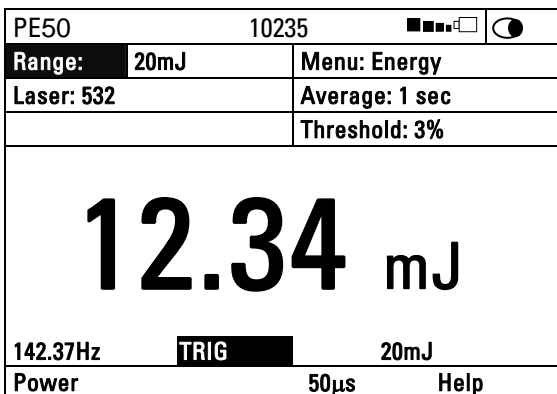

Figure 6.1
1. Ordinarily, when the instrument is switched on, it is in the main energy measurement mode. This can be verified by the units of mJ,  $\mu$ J etc. and the legend "energy" in the upper right corner of the display. (See Figure 6.1). If it is in power measurement mode with units of mW, W etc., then press "energy".
Besides the usual range, laser, average information, the Nova II also displays the frequency of the laser as shown in Figure 6.1.